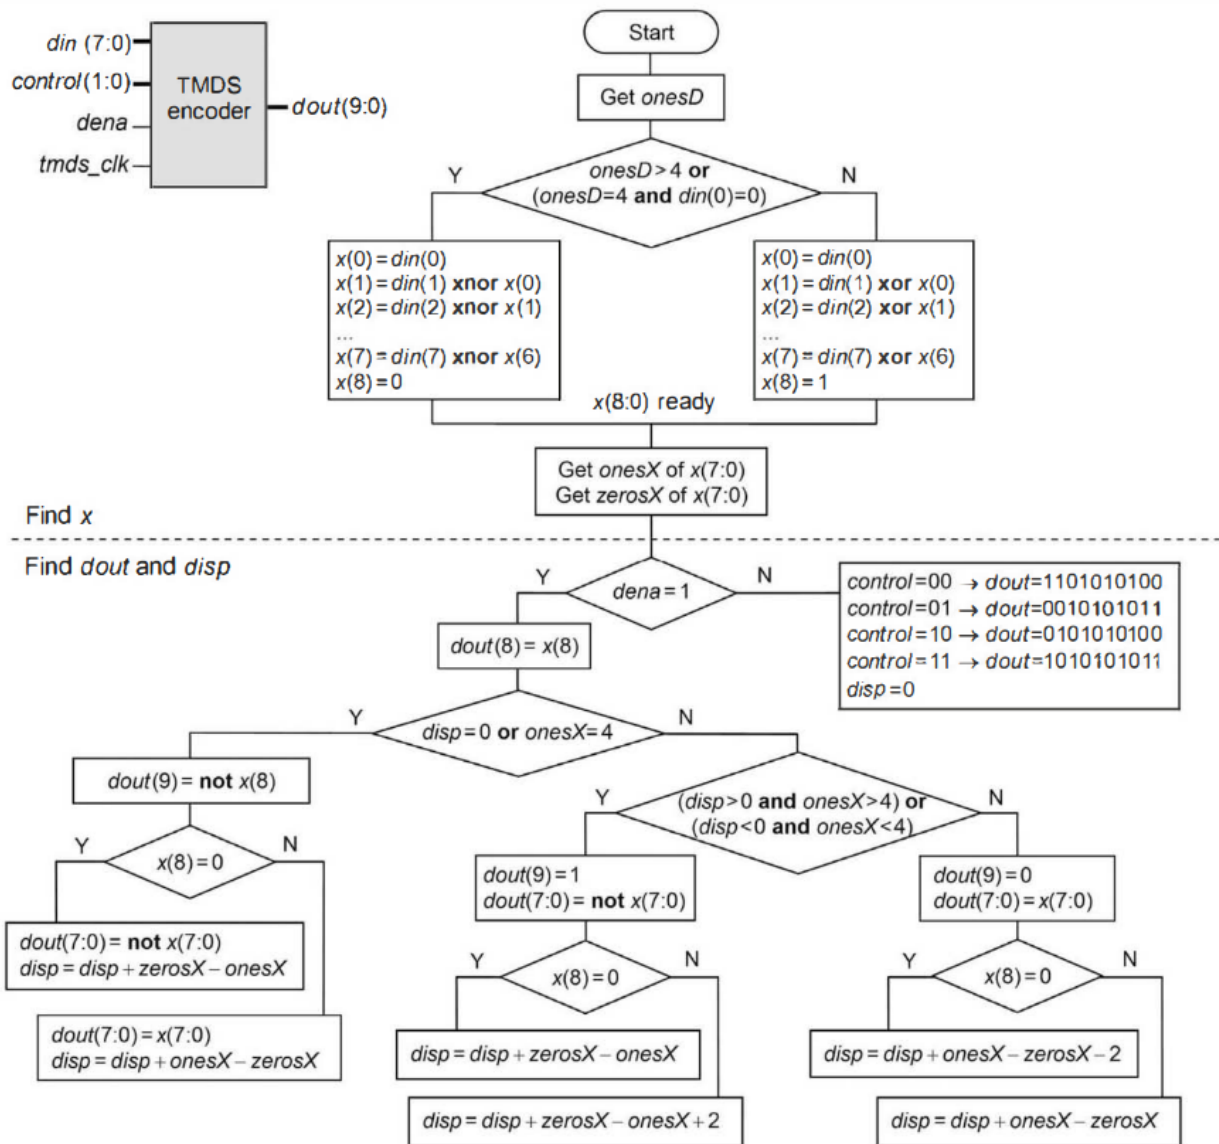

Figure 6: TMDS Algorithm
The general architecture of TMDS links is shown in fig. 6. The transmitter consists of an 8B/10B encoder, a serializer, and current-mode logic(CML) input and output pins. The 8B/10B encoder converts an 8-bit word into a 10-bit word with fewer internal transitions, thereby reducing high-frequency emissions. It also provides near-perfect DC balance (number of ones close to the number of zeros) on the communication wires, improving noise margin. Be aware, however, that this 8B/10B code is not the same as the original 8B/10B code introduced by IBM in the 1980s.
4. Describe a component implementing the algorithm shown in fig. 6. Does your circuit behave correctly against the examples of fig. 7? Your circuit can use the following entity description: